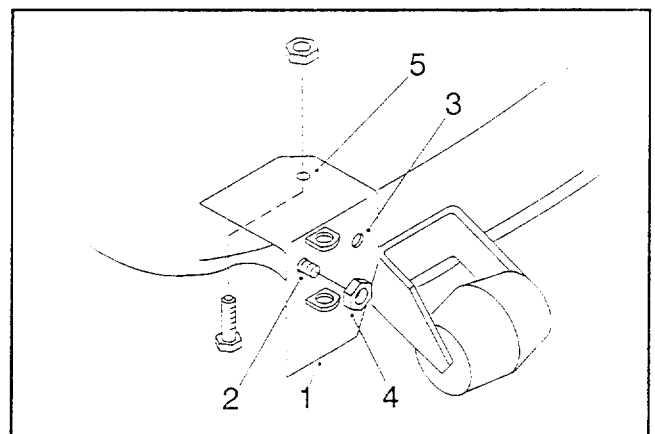

Figure 3
1. Slide the pivot support onto the threaded rod that is welded onto the front of the mower near the discharge opening (Fig. 3).
Note: The pivot support has one hole for mounting it to a 42" mower, and a different hole for the 48" mower (Fig. 3).
2. Screw the $\frac{3}{8}$ " deflector jam nut (Fig. 3) onto the threaded rod until the nut is flush with the end of the rod.
4. Drill an $1\frac{1}{32}$ " diameter hole in the mower, using the hole in the top of the pivot support as a template (Fig. 3). Remove the clamp after you drill the hole.